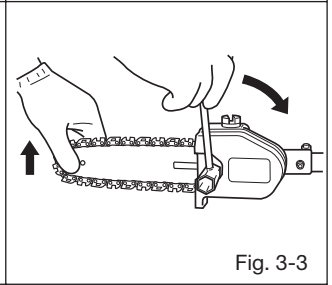

Fig. 3-3
### Terän kulman säätäminen (Fig. 3-3, 4)
5. Raise the bar end, and tighten the chain (1) by turning the tension adjustment bolt (2) clockwise. To check proper tension, lightly lift up the center of chain and there should be about 0.5-1.0mm clearance between bar and edge of drive link (3). (Fig. 3-3, 4)
- PROPER TENSION IS EXTREMELY IMPORTANT! (Fig. 3-3, 4)
6. Raise the bar end and securely tighten the chain bar clamp nuts with the combi box spanner. (Fig. 3-3)